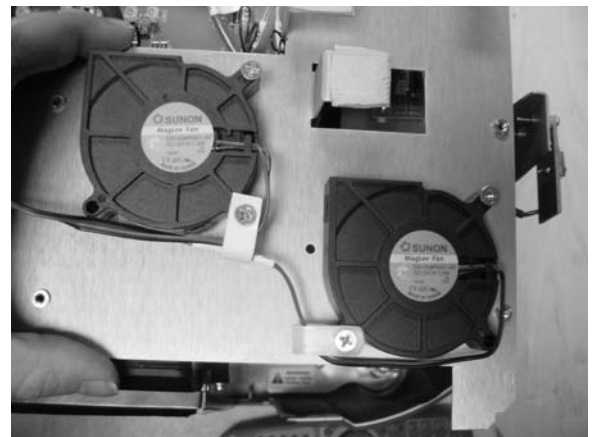

Figure 28. TIPM Fans
5. Each fan is secured to the TIPM cover/baffle with two (2) screws. Remove the fan you need to replace. (Figure 28.)